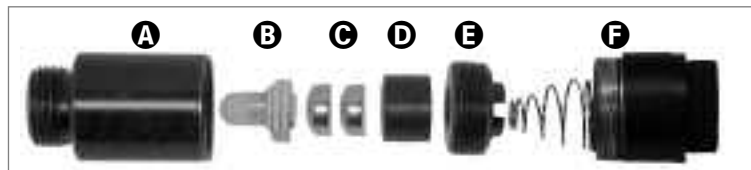

Fig. 13b: Reticle LED assembly: (A) Reticle Container; (B) LED; (C) Batteries; (D) Battery Holder; (E) Threaded Lid; (F) Cap.
13. **Remove Plastic Strip from Reticle LED:** The polar alignment reticle LED (30, Fig. 1d) contains two watch batteries. The reticle's LED is shipped with a plastic strip between the two batteries to protect battery life. Unthread both the cap (F) and the threaded lid (E). Remove the plastic strip before using. Refer to the reticle assembly in Fig. 13b and note the orientation of the batteries. Place the batteries (C) into the battery holder (D) before inserting into the reticle container (A).